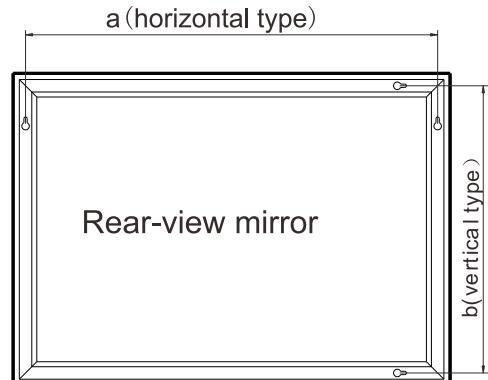

Fig. 2
1. Make certain the wall is solid, and use the flexible rule to measure the centre distance between two hardy holes on the mirror frame ("a" and "b" in Fig. 2).
2. Use the flexible rule to measure the centre distance between two hardy holes on the wall ("a" and "b" in Fig. 2), and mark them out with a pencil.